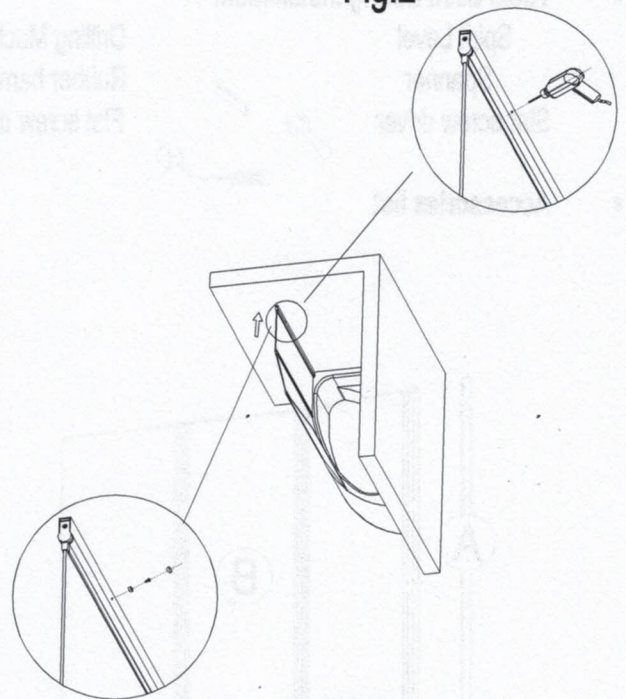

Fig.3
- (Fig.3) You must slide the bath screen over the now installed wall channel. Once you have correctly compensated and positioned the bath screen. You must drill a hole through the aluminum profile on the glass into the aluminum wall channel. Apply screws for stability and use covers to cover the head.